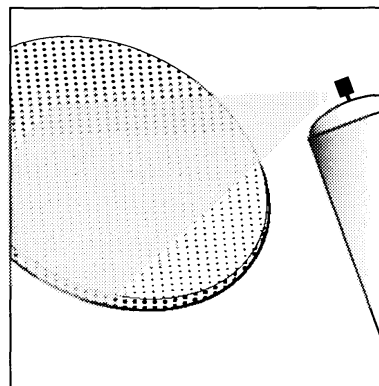

FIGURE 5
4. After removing the grille from the speaker frame by carefully hooking it with a bent paperclip and pulling it gently away from the frame, spray on two thin coats of finish color. If you're using a compressor and spray gun, use the finest, most diffuse setting. Be careful not to fill the holes in the grille with paint. [Figure 5]